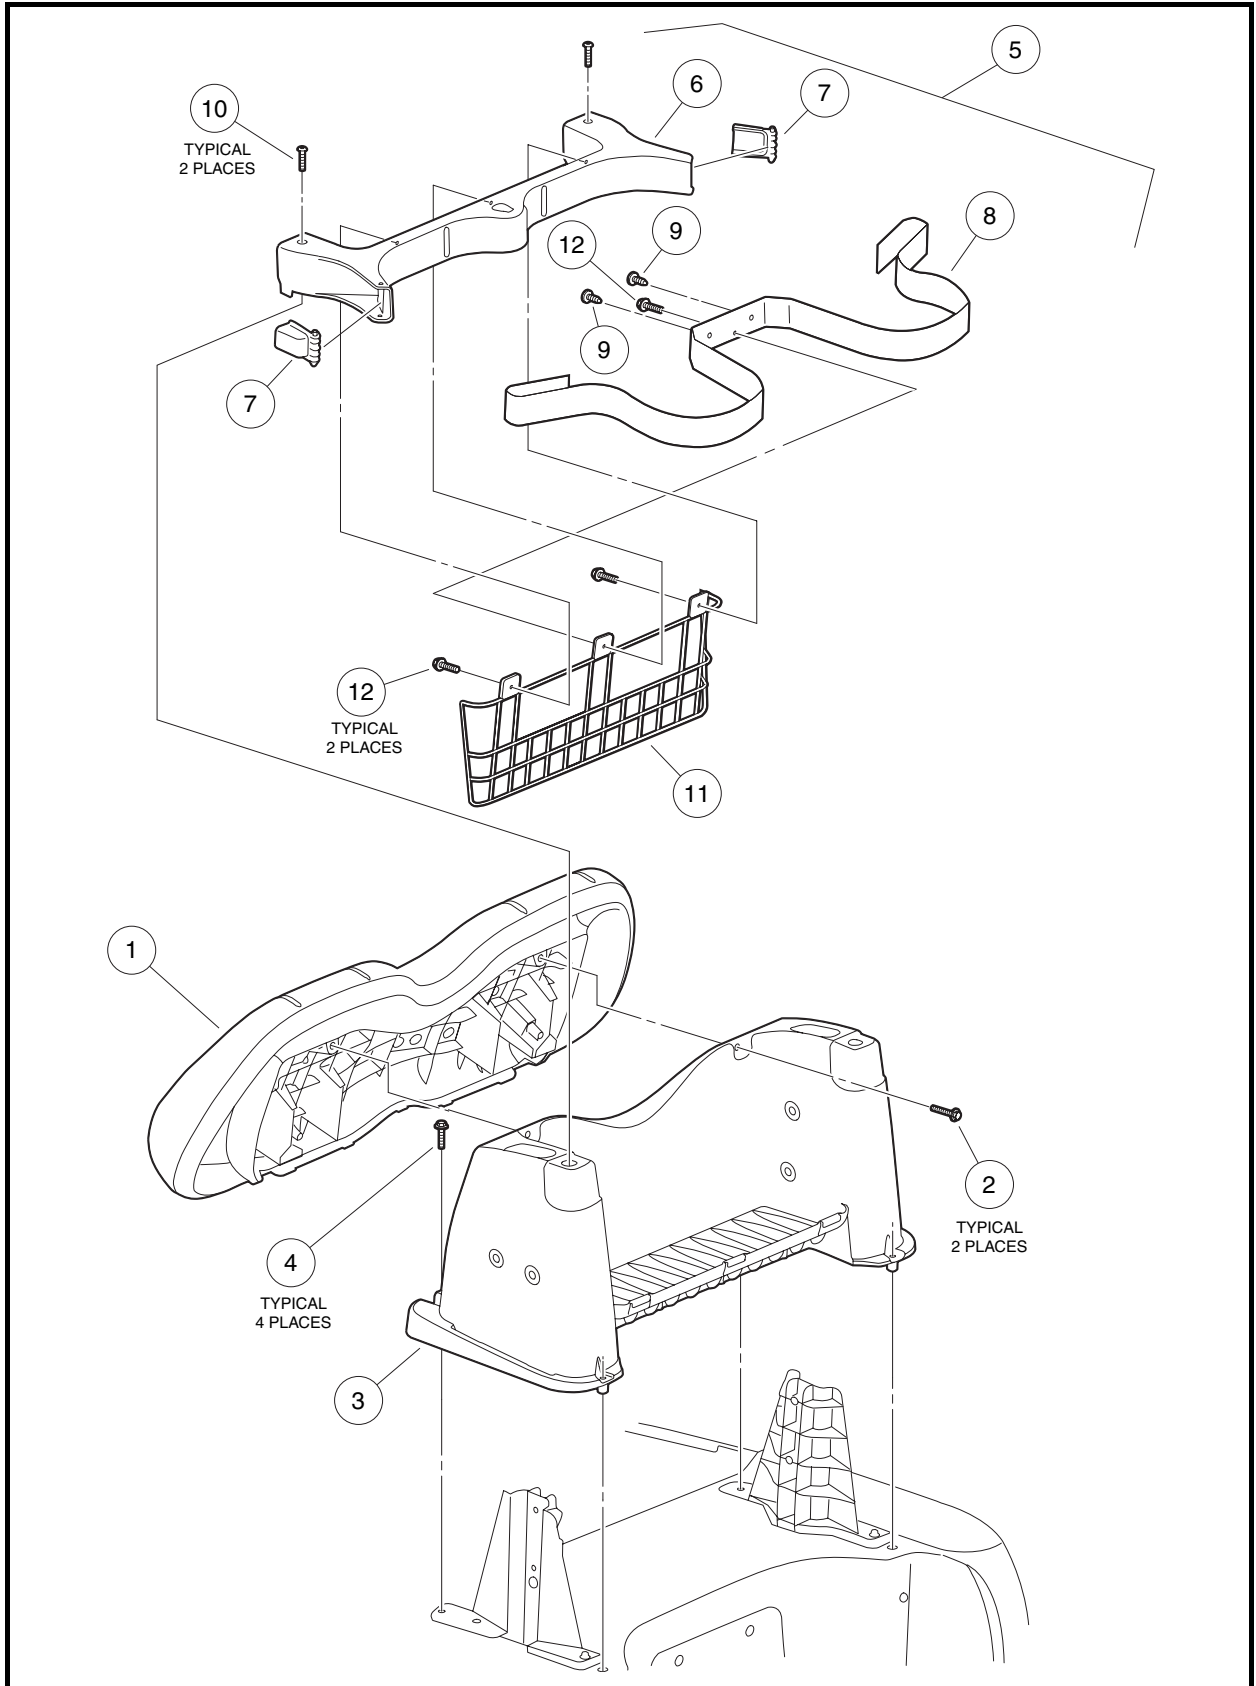

Figure 4-7 Backrest and SAM
2. Remove four bolts (4) to release the SAM (3) from the vehicle (**Figure 4-7, Page 4-9**).
1. Position the SAM (3) over its mounting holes and secure with four screws (4). Tighten screws to 53 in-lb (6 N·m) (**Figure 4-7, Page 4-9**).
The backrest (1) is secured to the SAM (3) with two screws (2) (**Figure 4-7, Page 4-9**). When replacing the backrest, tighten screws (2) to 5.9 ft-lb (8 N·m).
1. Remove two screws (10) to release the bag hoop (6) and related components from the SAM (3) (**Figure 4-7, Page 4-9**).
2. Bag strap (8) may be released by removing two plastic barrel connectors (9) and one screw (12).
3. Bag strap buckles (7) may be snapped out of bag hoop (6).
Installation is the reverse of removal. Tighten screw (12) to 4.8 ft-lb (6.5 N·m) and screws (10) to 11.8 ft-lb (16 N·m) (**Figure 4-7, Page 4-9**).
The sweater basket (11) is secured to the bag hoop assembly by three screws (12). Tabs on the upper edge of the basket align with holes in the bag hoop (6) for installation purposes. Tighten screws (12) to 4.8 ft-lb (6.5 N·m) to secure the sweater basket (**Figure 4-7, Page 4-9**).